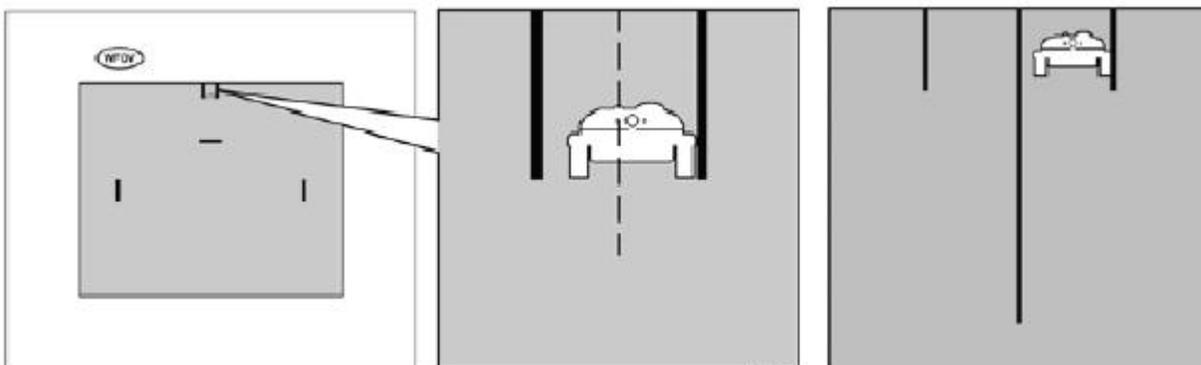

Figure 3. NFOV Stadia (left), WFOV target in-range (center), NFOV target out-of-range (right)
- (1) Move the stadia lines to the target, keeping the target between the stadia lines.
- (2) Place one of the stadia on one edge of the target.
- (3) Determine the target is in range if the opposite edge of the target touches or exceeds the other stadia.
b. Determine target engageability using half stadia method (Figure 3).